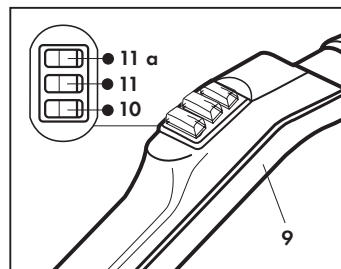

Fig. 24
- b) Release any residual boiler pressure through the tool by pressing the red switch (10) on the handle (9) (Fig. 24). If you are using the iron, press button (23) (Fig. 25).
- f) Loosen the fill cap (E) and wait until the pressure has completely been released.